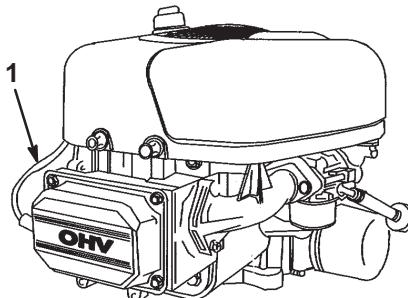

Figure 19
- Disconnect the wire from the spark plug (Fig. 19).
- Connect the wire to the spark plug (Fig. 19).